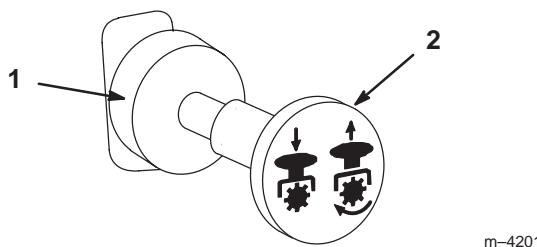

Figure 14
- Pull out on the power take off (PTO) switch to engage it (Fig. 14).
To disengage, push the PTO switch to the Off position (Fig. 14).